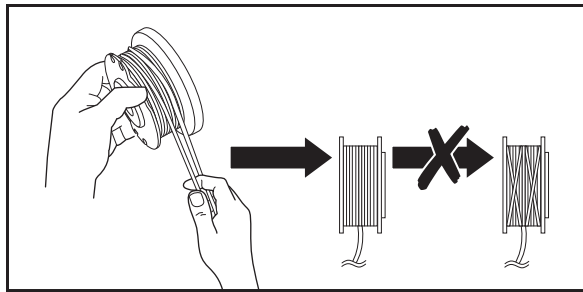

Fig. 28
9. Wind all the trimming line (12d) firmly around the spool in direction of the arrows on the trimming spool (12c) (Fig. 28).